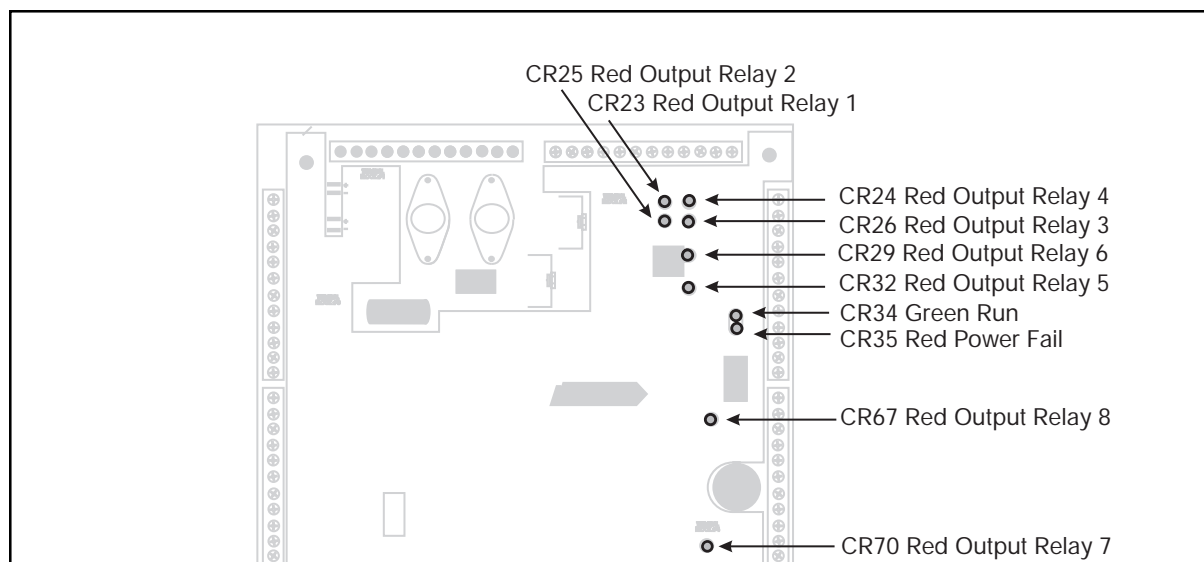

Figure B-1 Location of LED indicators activated during the self-test.
*available only on the N-1000-II-X (see figure B-1 below for location of LEDs)